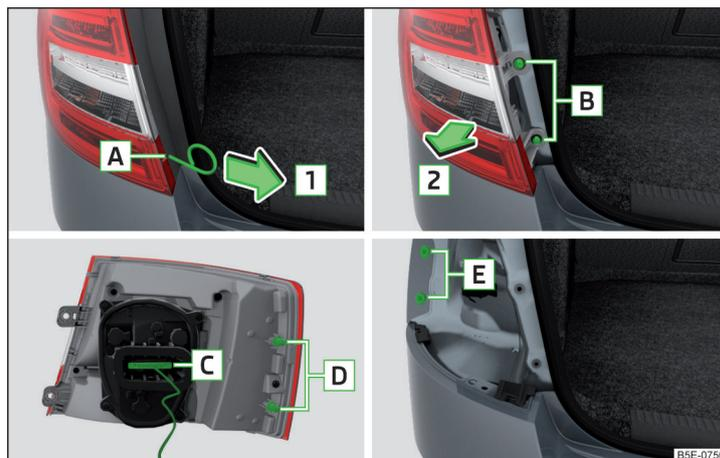

Fig. 353 Removing lamp
- Fig. 353.
- Insert the lamp with pins **D** » Fig. 353 into the recesses **E** in the body.